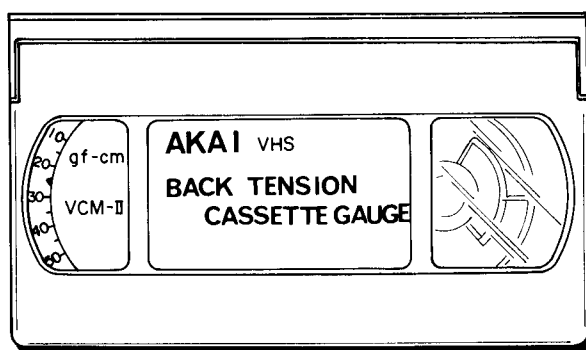

Fig. 5-5 Back Tension Jig (AJ751181)
- 1) Set the back tension Jig (AJ-751181) as shown in Fig. 5-5, and put some weight on the back tension Jig..